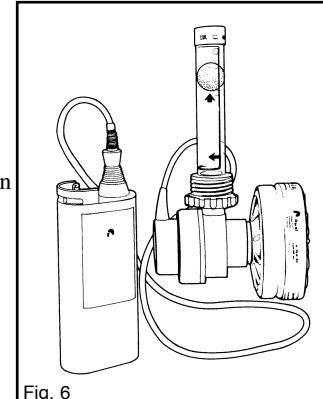

Fig. 6
2. Insert the base of the airflow indicator into the outlet side of the blower/filtration unit. (Fig. 6) Turn the battery pack switch to the ON position.
The 3M SP3 filter used on the 3M™ Powerflow™ System must be changed when clogged as indicated by a low flow rate during the User Performance Check. (Fig. 6) Check your system frequently using the provided airflow indicator and adhering to the flow requirements of the 3M system. Filter life will vary depending on concentration of particulate contaminants. Used filters should be disposed of in accordance with applicable federal, state and local laws and regulations.